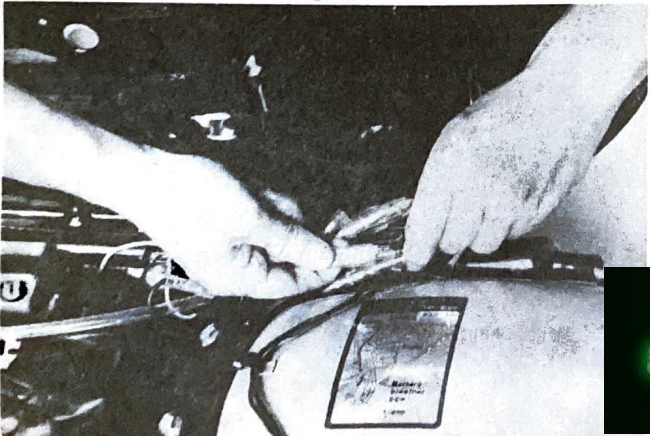

Fig. 35
- b. Connect the flasher lamp lead wires to the lead wires of the same colors in the wire connector cover on the right top of the rear fender. (Fig. 35)